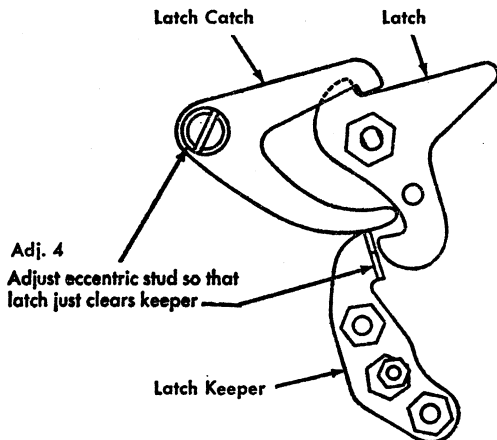

Figure 9. Latch Catch Adjustment
4. **THE LATCH CATCH** works in conjunction with the latch and the trigger to time their operation. The latch catch is attached to the left hand platen lift lever (Figure 9).
and rotating the stud until the latches just clear the front surface of the keepers as the platen is lowered (Figure 9).